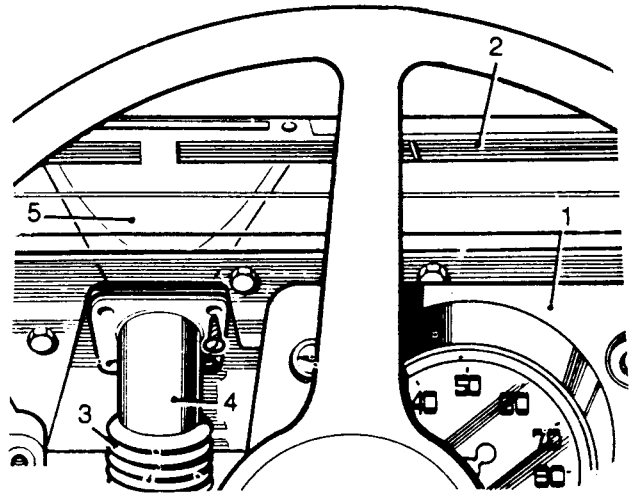

Fig N3.11
- (3) Refer to Fig N3.11. Withdraw the instrument panel (1) clear of the dash (see Sub-section O5, Chapter 27).
- (4) Remove the fresh air grille (2) (two screws).
- (5) Withdraw the demister hose (3) (see Sub-section N3, Chapter 6).
- (6) Remove the fixings from the nozzle adaptor (4) and remove the adaptor.
- (7) Manoeuvre the nozzle (5) out through the fresh air grille aperture.